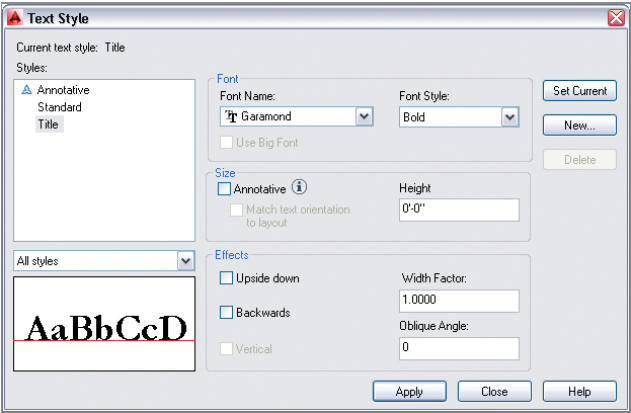

FIGURE 10.2 Configuring the Title style
- 4. Open the Font Name drop-down and select Garamond. The symbol next to the font name indicates this is a TrueType font. Set Font Style to Bold, and deselect Annotative (see Figure 10.2). Click the Apply button.